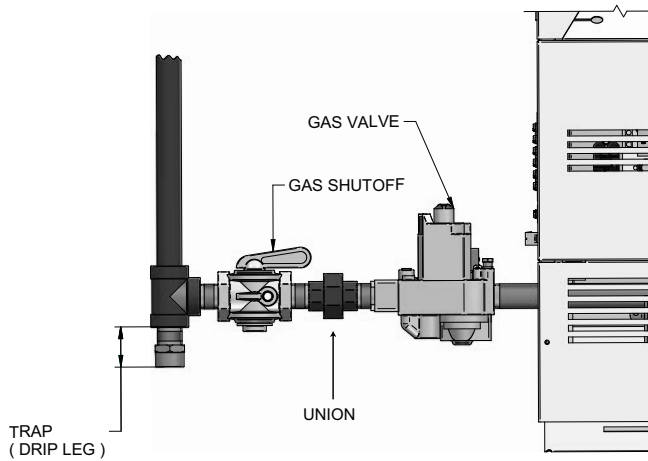

Figure 3-1_Gas Line Connection
3. Installation of a union is suggested for ease of service, see FIG. 3-1 on page 20.
5. A trap (drip leg) **MUST** be provided by the installer in the inlet of the gas connection to the appliance, see FIG. 3-1 on page 20.
All gas connections must be made with pipe joint compound resistant to the action of liquefied petroleum and natural gas. All piping must comply with local codes. Tubing installations must comply with approved standards and practices. Reference FIG. 3-1 for a typical installation.